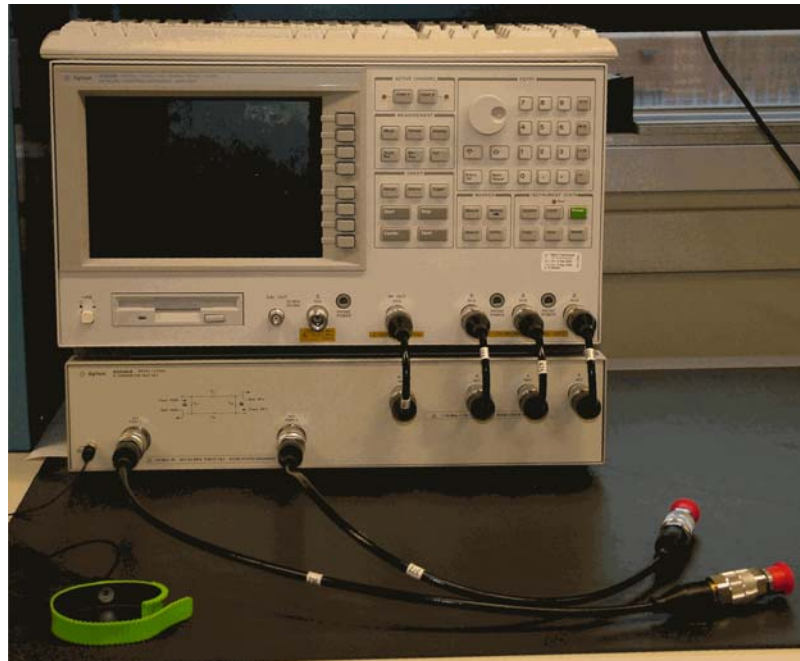

Figure 9. Network Analyzer and S-Parameter Test Set
1. The 4396B should be set up to look like the photo shown in Fig.9. If not ask your instructor for help.
DO NOT ATTEMPT to make the connections shown in Fig. 9. A special torque wrench is need to make the cable connections to the S-Parameter Test Set. These cable connections cost \$1000 each and can be easily damaged.